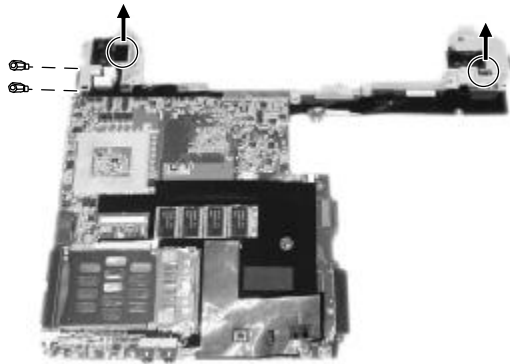
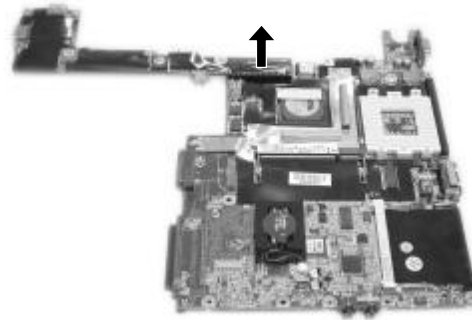

Figure 2-33 Remove two hex nuts
Figure 2-35 Free the system board
4. Remove two hex nuts and disconnect two speaker's cords from system board. Then separate the bracket.(Figure 2-33)
6. Separate the D/D board from system board. ((See the bracket (Figure2-33) Disassembly) Figure 2-35))